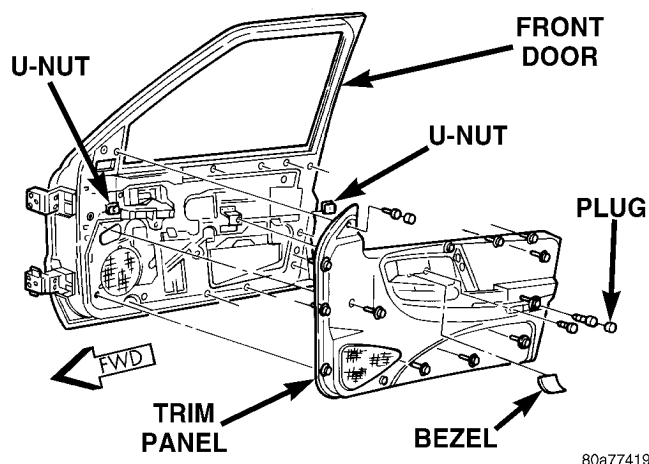

Fig. 13 Front Door Trim Panel
- (1) Remove screw attaching trim panel to inside release handle (Fig. 13).
- (2) Remove screw at armrest.
- (3) Remove screw at the upper mirror bezel.
- (4) Remove the screw in the trim panel depression.
- (5) Using trim remover (C-4829 or equivalent), detach trim panel perimeter push-in fasteners from door inner panel.